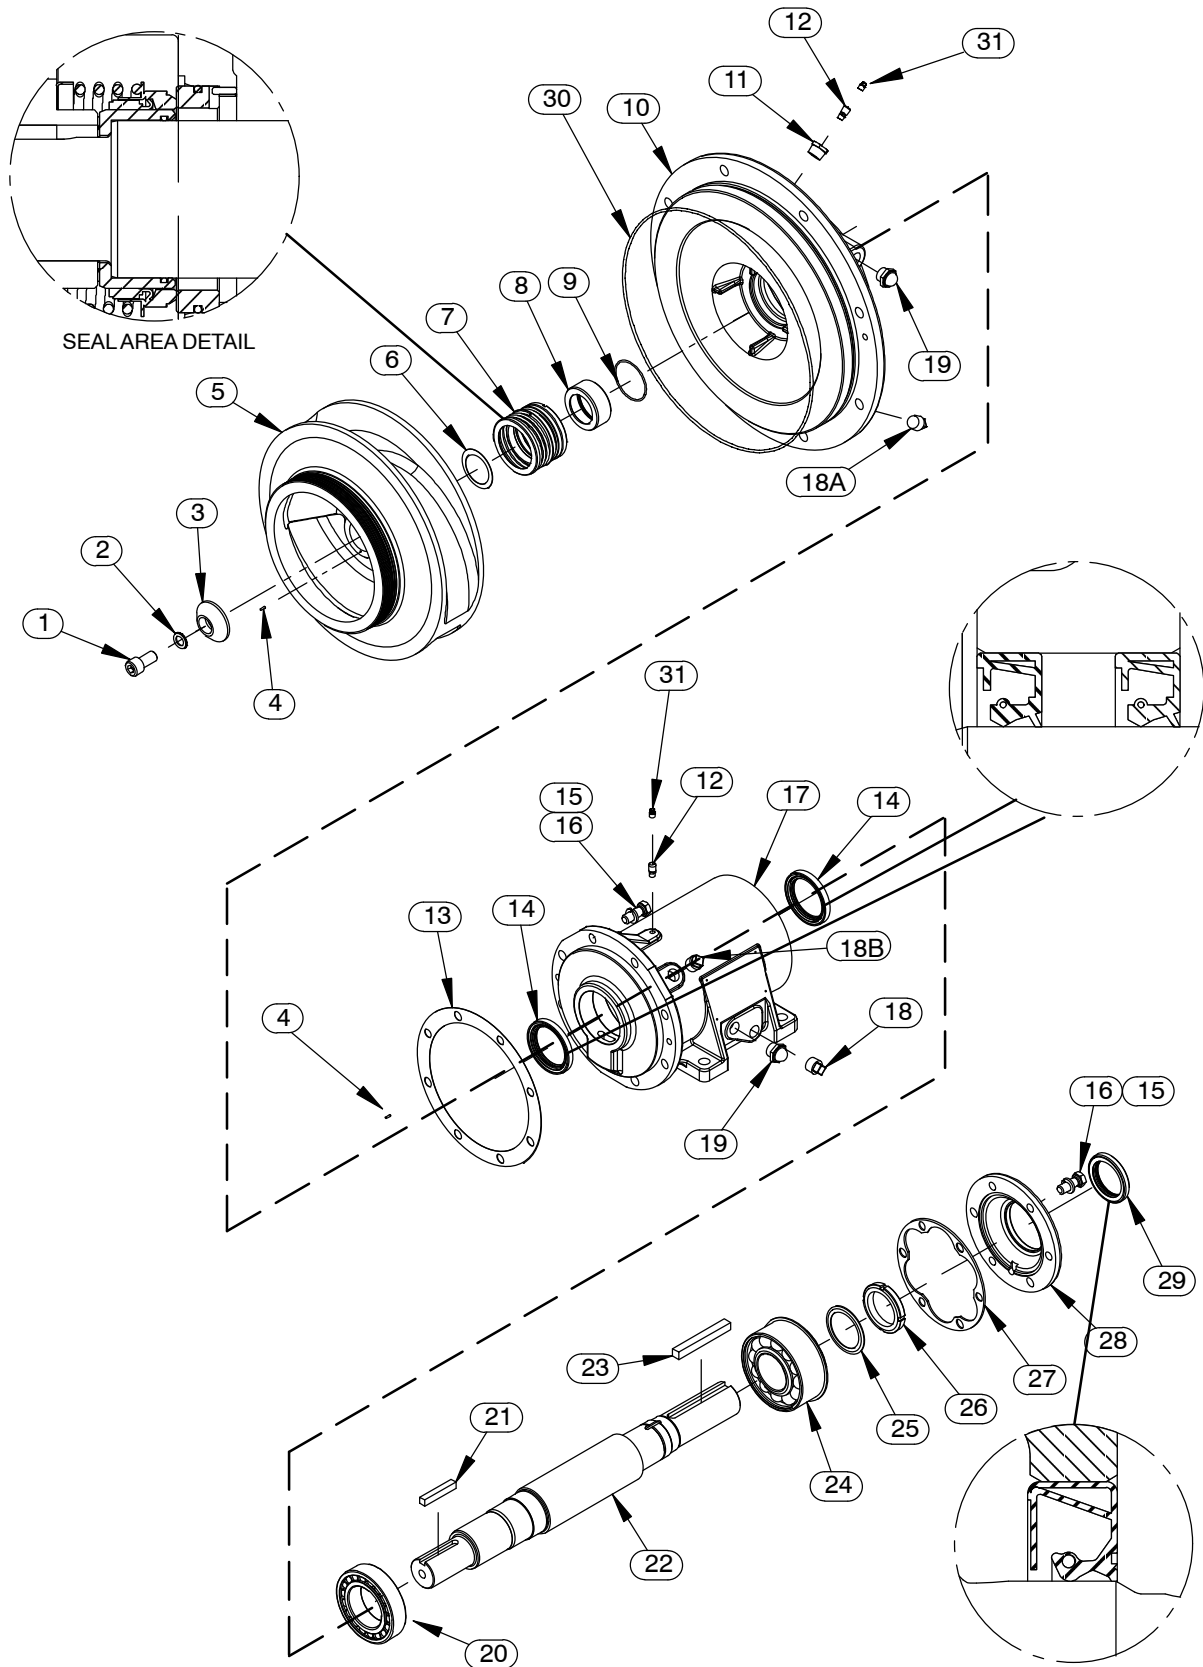

Figure 2. Repair Rotating Assembly
(Figure 2)
(Figures 2)
Further disassembly requires separating the rotating assembly from the power source. Remove the coupling securing the rotating assembly to the power source and remove the key (23, Figure 2).